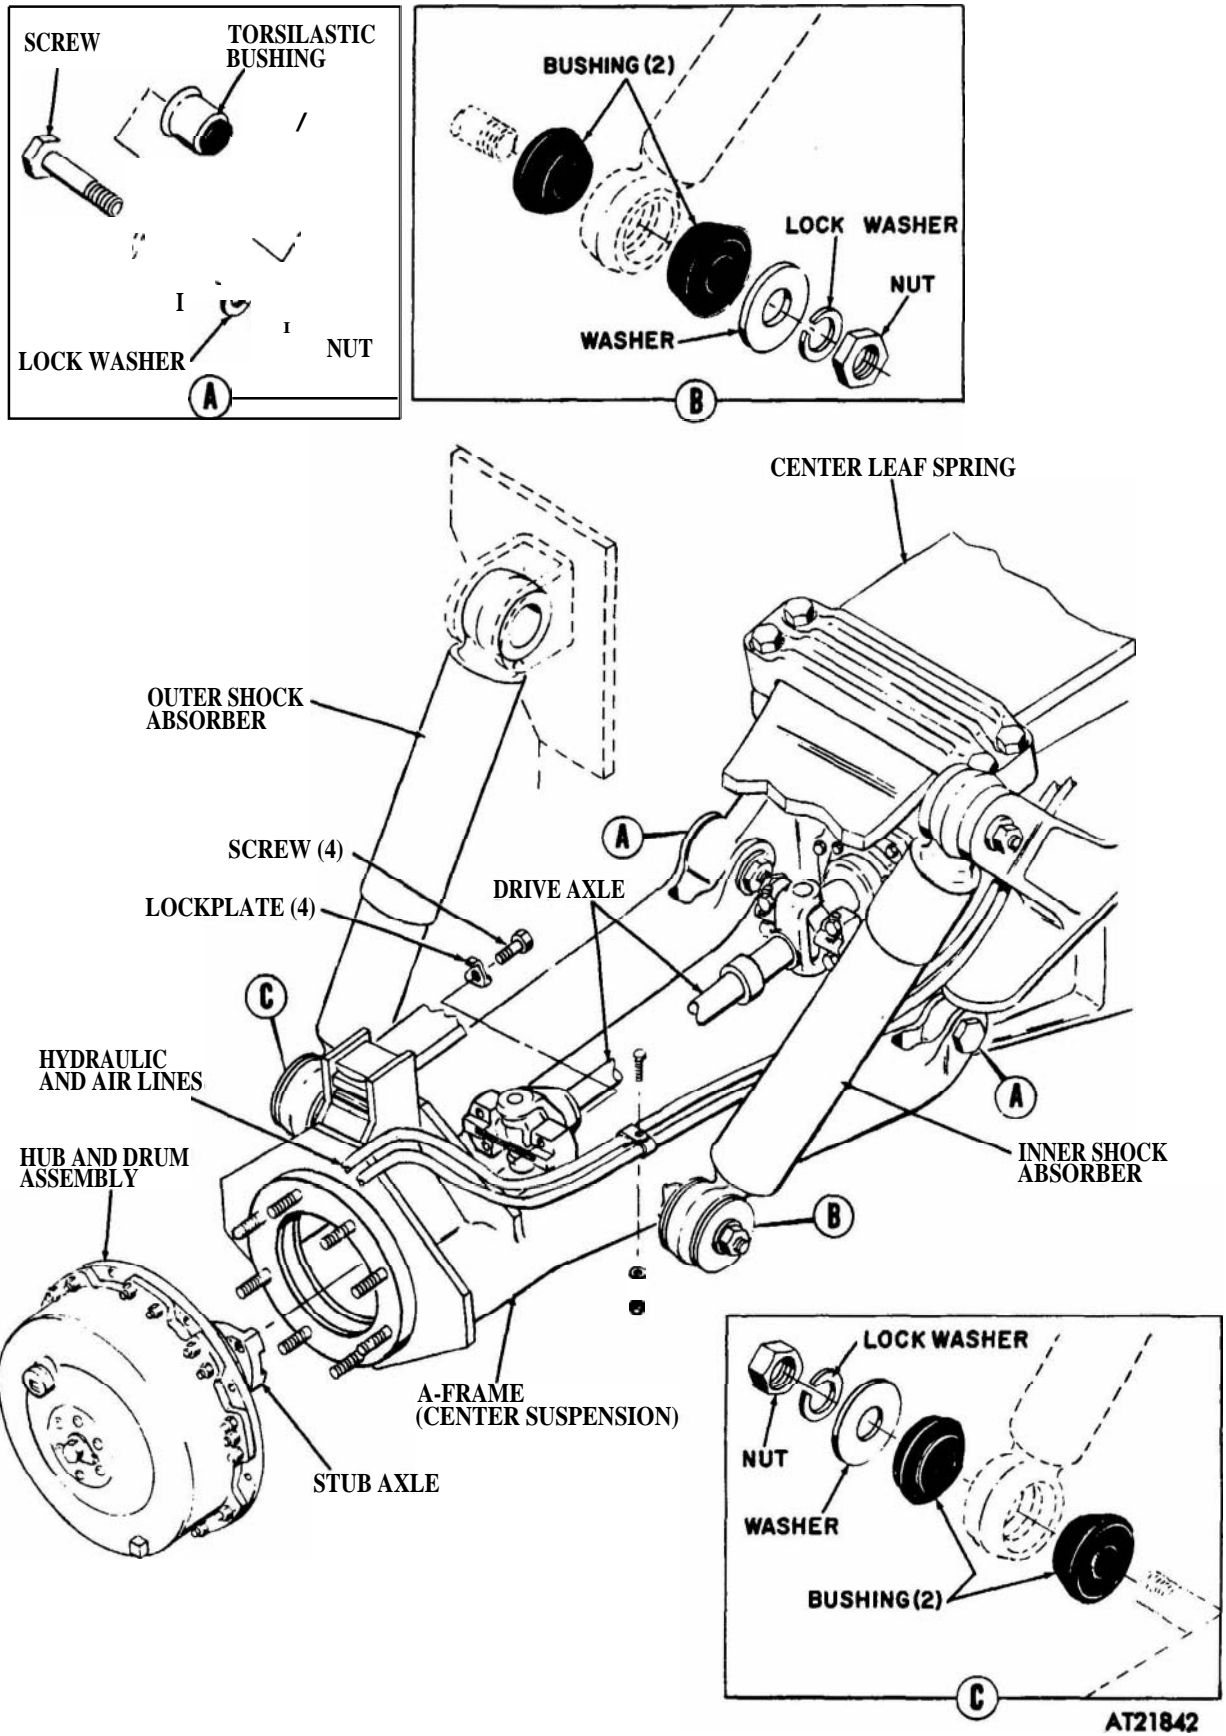

Figure 2-187. Center suspension (A frame), removal and installation.
(3) Remove four screws and lock plates securing axle shaft to stub axle (fig 2-187).
(4) Remove two screws securing hydraulic and air line clamps to suspension arm assembly. Disconnect hydraulic and air lines from wheel spindle.
(5) Remove wheel spindle and brake assembly (refer to para 2-162).
(6) Remove inner and outer shock absorbers from suspension arms (refer to **para** 2-203).
(7) Remove jack from suspension arm assembly.
(8) Place a suitable support under suspension arm assembly and remove two nuts, lock washers, and screws securing suspension arm assembly to **differential**. Remove suspension arm assembly from differential and leaf spring.
(9) If damaged, remove torsilastic bushings from center differential housing with a suitable puller.
(29) Connect hydraulic, air, electrical cables to tractor (figs 2-187 and 2-188).
(30) Remove fill plug and fill center differential with lubricant (refer to LO 9-2320-292-12).